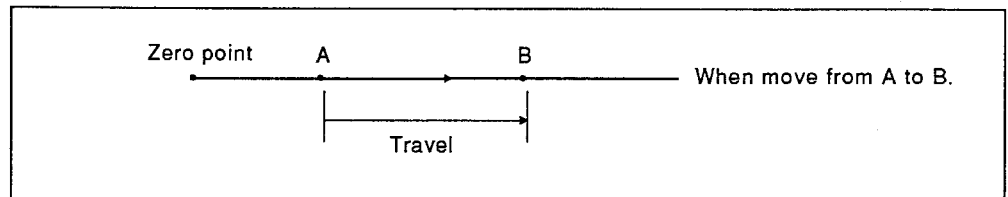

Fig. 3.6 Incremental Method
(15) Positioning mode
- In incremental mode positioning, positions are reached with reference to the previous position. (See Fig. 3.6.)